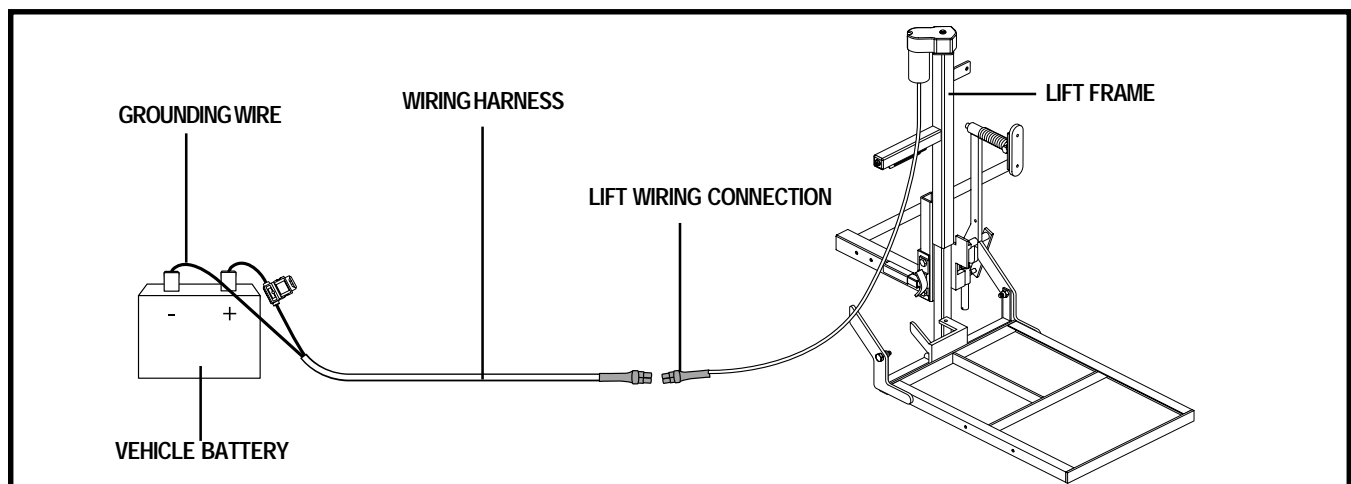

Figure 3. Wiring Harness Installation
1. Route the lift system wiring harness (starting at the lift) through the interior of the vehicle until you reach the automobile battery. See figure 3. You will typically find pass through points at the rear lighting assemblies, which will enable you to route the cable through the trunk and under the back seat.